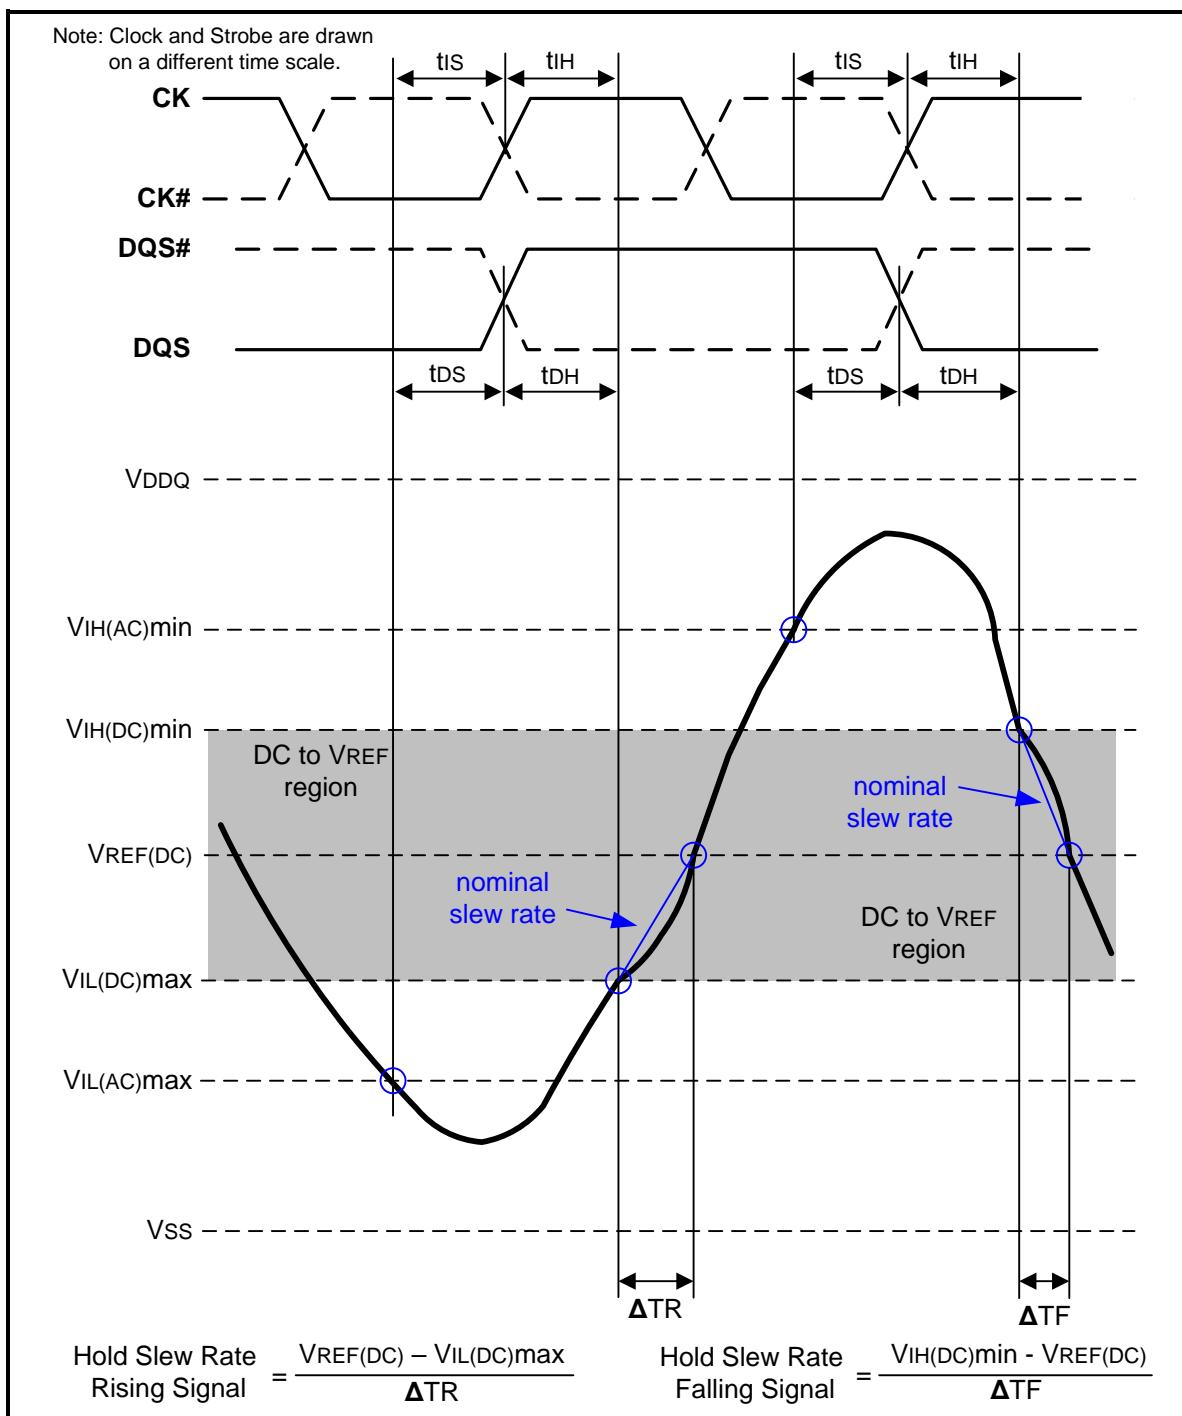
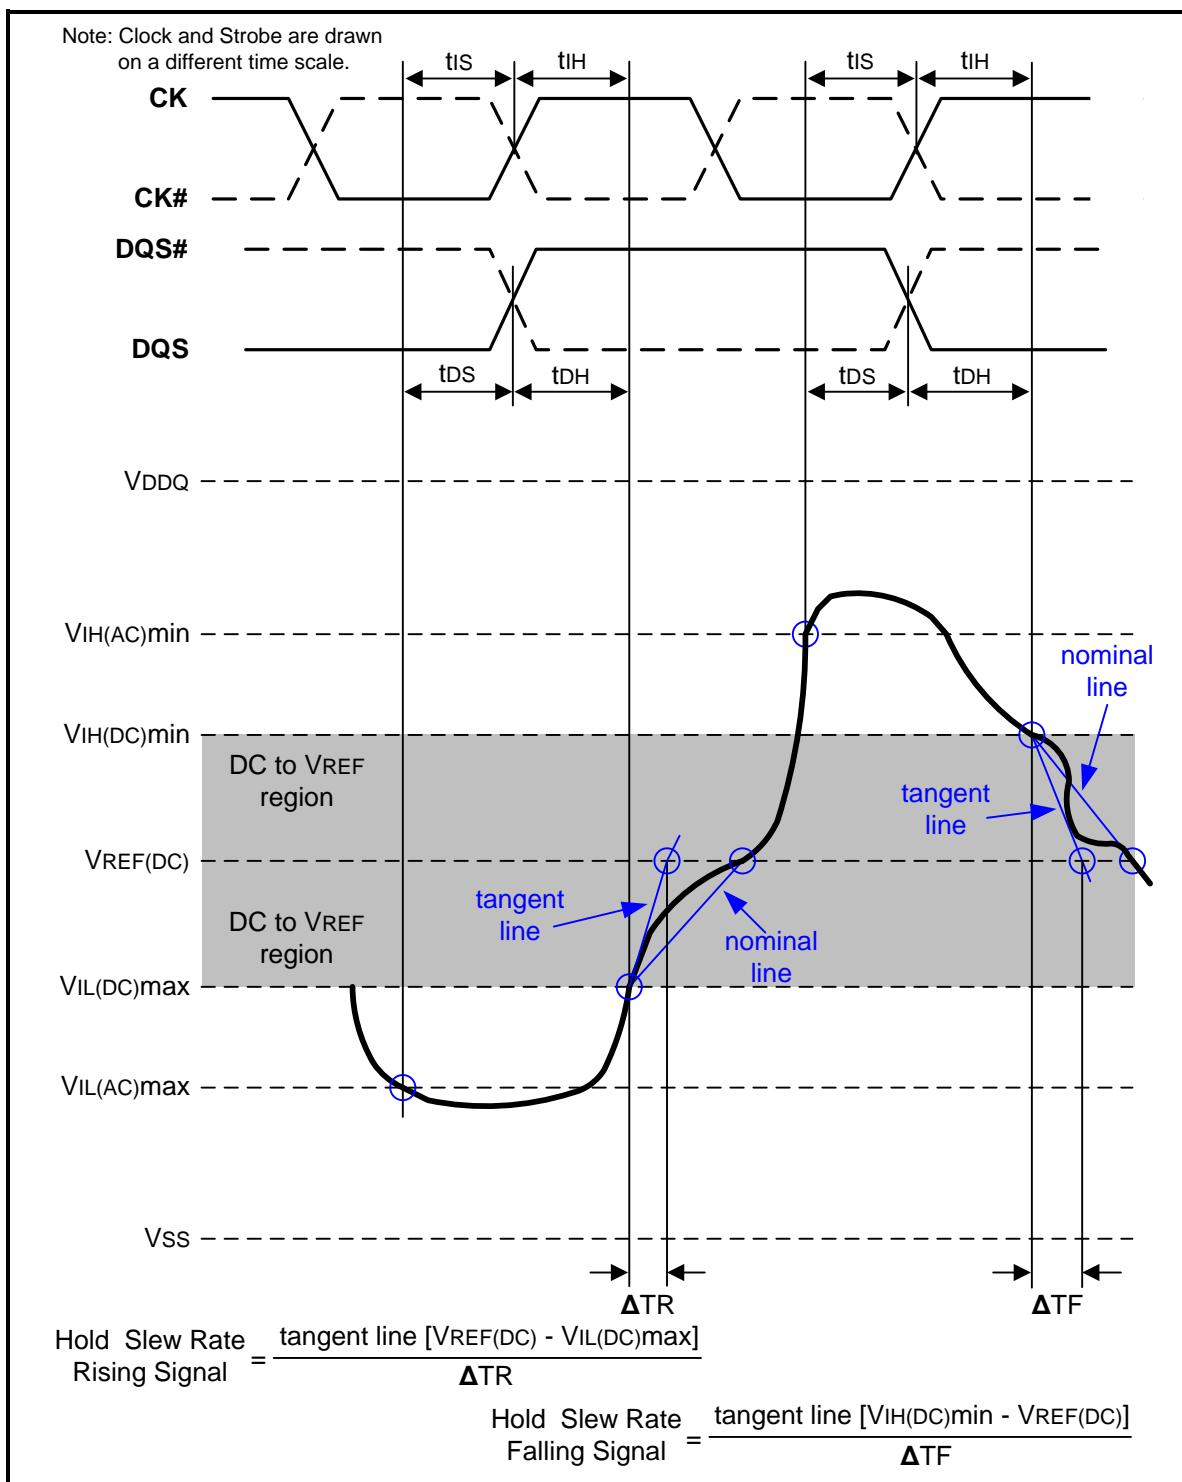

Figure 108 – Illustration of nominal slew rate for hold time  $t_{DH}$  (for DQ with respect to strobe) and  $t_{IH}$  (for ADD/CMD with respect to clock)
Figure 110 – Illustration of tangent line for hold time  $tDH$  (for DQ with respect to strobe) and  $tIH$  (for ADD/CMD with respect to clock)
Hold (tIH) nominal slew rate for a rising signal is defined as the slew rate between the last crossing of VIL(DC)max and the first crossing of VREF(DC). Hold (tIH) nominal slew rate for a falling signal is defined as the slew rate between the last crossing of VIH(DC)min and the first crossing of VREF(DC). If the actual signal is always later than the nominal slew rate line between shaded 'DC to VREF(DC) region', use nominal slew rate for derating value (see Figure 108). If the actual signal is earlier than the nominal slew rate line anywhere between shaded 'DC to VREF(DC) region', the slew rate of a tangent line to the actual signal from the DC level to VREF(DC) level is used for derating value (see Figure 110).
Hold (tDH) nominal slew rate for a rising signal is defined as the slew rate between the last crossing of VIL(AC)max and the first crossing of VREF(DC). Hold (tDH) nominal slew rate for a falling signal is defined as the slew rate between the last crossing of VIH(AC)min and the first crossing of VREF(DC) (see Figure 108). If the actual signal is always later than the nominal slew rate line between shaded 'DC level to VREF(DC) region', use nominal slew rate for derating value. If the actual signal is earlier than the nominal slew rate line anywhere between shaded 'DC to VREF(DC) region', the slew rate of a tangent line to the actual signal from the DC level to VREF(DC) level is used for derating value (see Figure 110).